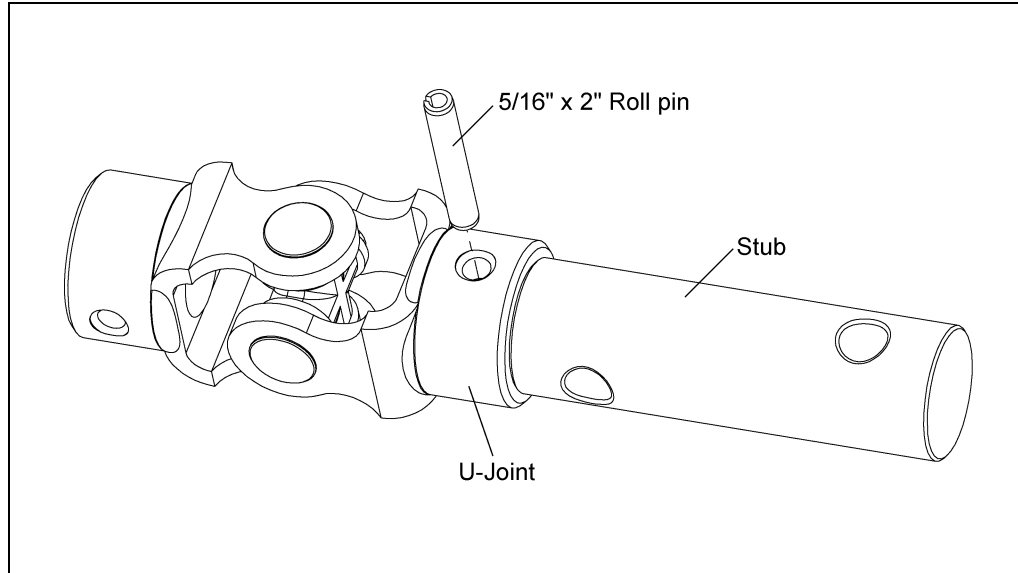

Figure 4Y
- b. Secure the U-joint using a 5/16" x 2" roll pin. Drive the pin in with a hammer. (*See Figure 4Y.*)